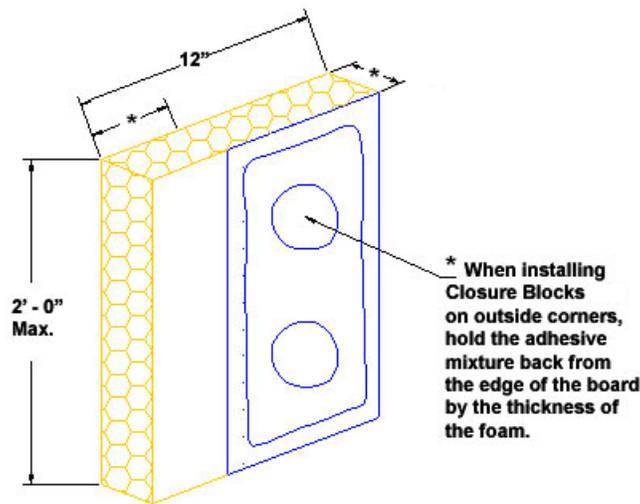

Fig. 27
- b. Apply the adhesive mixture to the back side of the Closure Block using a ribbon and dab pattern. When installing Closure Blocks on outside corners, hold the adhesive mixture back from the edge of the board by the thickness of the foam and position on the wall as shown in Figure 27.